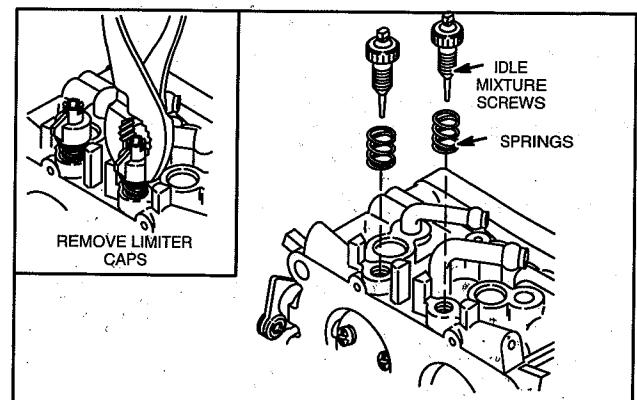

Fig. 47 – Remove Idle Mixture Screws
8. Remove idle mixture screws and springs, Fig. 47.